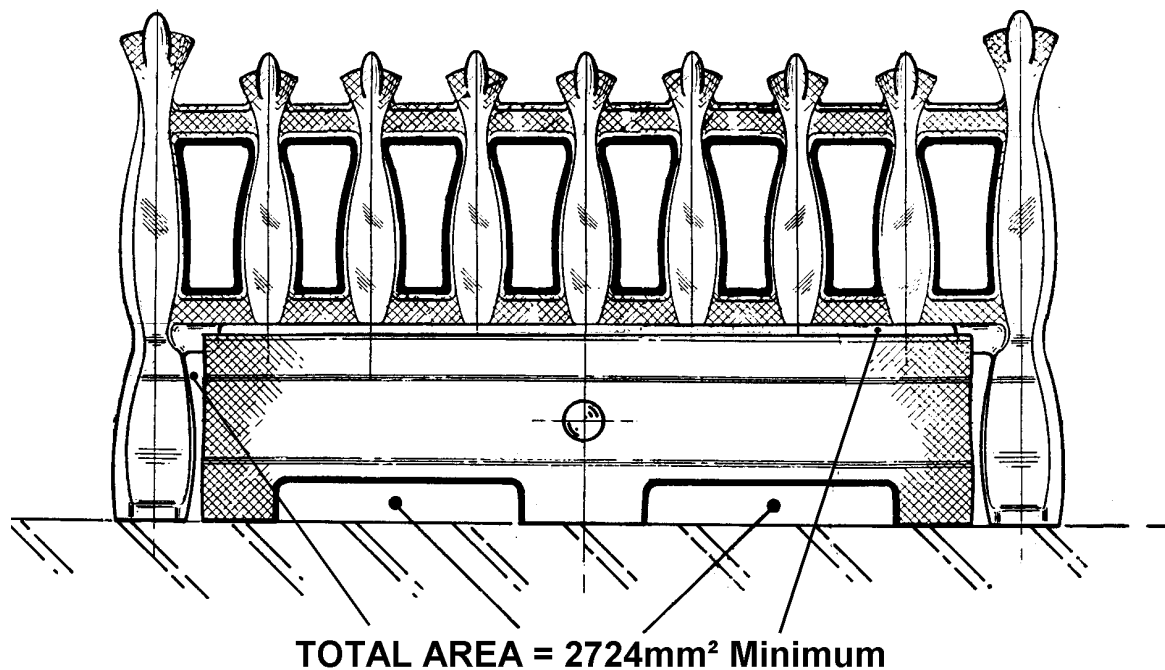

Figure 45 Firefront Minimum open area requirements.
- A slotted firefront with a **minimum** free area as shown in figure 45 must always be used.